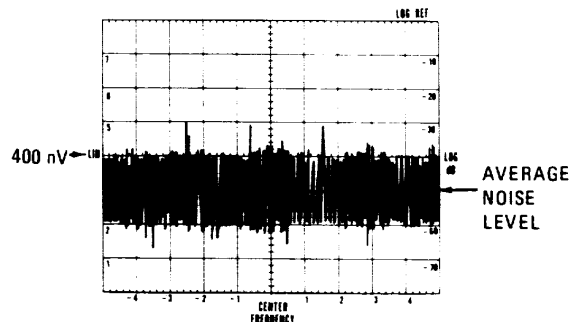

Figure 4-5. Average Noise Level Display
**Average noise level is read at the mid-point of the noise on the CRT display (see Figure 4-5).**